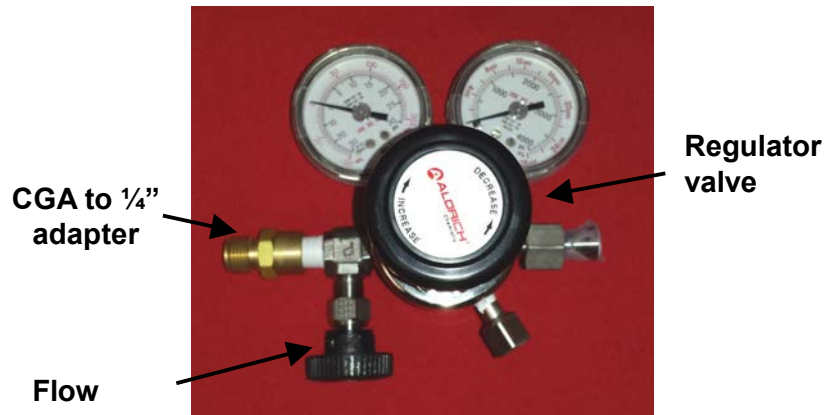

Figure 7.
2. Remove the plastic cap from the CGA 180 inlet (nut marked "180") of the CJ Tee Syringe Adapter, ensuring the PTFE washer remains in place. Connect to the other side of the CGA to ¼" adapter. **Do Not** use PTFE tape. Tighten with a wrench (see Figure 7).